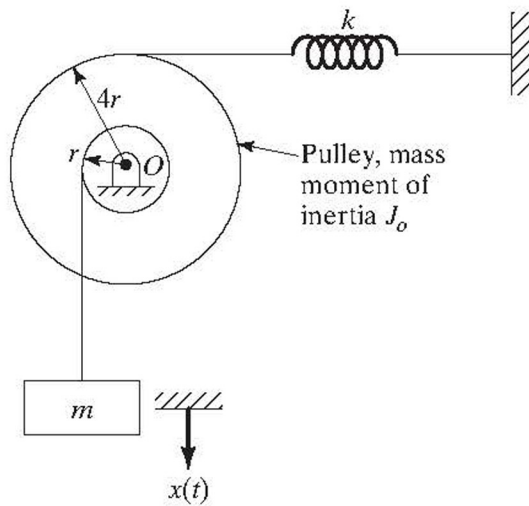

FIGURE 2.85
**2.45–2.46** Draw the free-body diagram and derive the equation of motion using Newton's second law of motion for each of the systems shown in Figs. 2.85 and 2.86.